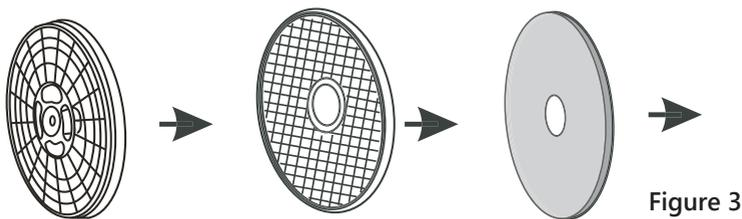

Figure 3
- e. Please adjust the direction of the exhaust connector, then match the exhaust connector to the connector. Please refer to Fig 3.
After cleaning, reinstall in the following order: 'Exhaust Filter → Lint Filter → Exhaust Vent.' Align the center groove in the filter with the icon on the drum can and ensure it is inserted correctly at the front. ( Shown in Fig 3 below)